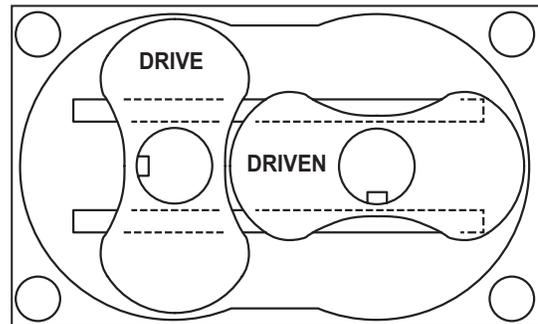

Figure 9 - Rotors in Housing
4. Place non-drive end plate on 6" × 6" blocks with the solid side up. The end plate must be blocked up so rotor shafts will not touch floor when they are installed. Grease and install O-ring (176) in end plate groove. Install housing (3) making sure dowel pins are in place. Do not bolt in place at this time.
5. Lay two pieces of steel approximately 2" × 2" × 1/8" thick at the bottom of the housing as shown in Figure 9 with the end (long shafts) up. The rotor lobes will be above the end of the housing which is necessary when assembling this end.
6. Grease and install O-ring (176) in groove of gear end plate. Use sufficient grease to hold it into place when the end plate is turned over .
7. Install the end plate on the rotors and housing. The end plate will rest on the ends of the rotor lobes, and there will be a space between the housing and the plate. Install all cap screws (301) and tighten end plate to housing until tight.
8. Use six cap screws (301) equally spaced and secure non drive end plate against shims at bottom end of rotors. Do not torque these bolts.
9. Grease O-ring (331) and start onto rotor shaft.